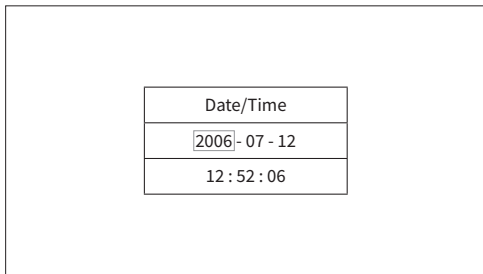
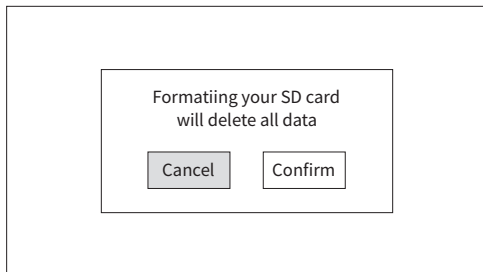

Fig. 8. Date/time settings
Fig. 10. SD card formatting interface
- (1) Long press  to enter the system setup interface.
- (2) Short press  to select the “date/time”. Long press  to enter the “date/time settings” interface as shown in Fig. 10.
- (3) Long press  to move the selection frame to the item needs adjusting. Short press  and  to modify the figures in the selection frame.
- (4) Long press  to save the change, then go back to the system setup interface.
- (5) Wait for 10 seconds, or long press  to close system setup interface as shown in Fig. 8.
(1) Long press  to enter the system setup interface.
(2) Short press  to select “formatting”, then long press  to enter the setup interface as shown in Fig. 10.